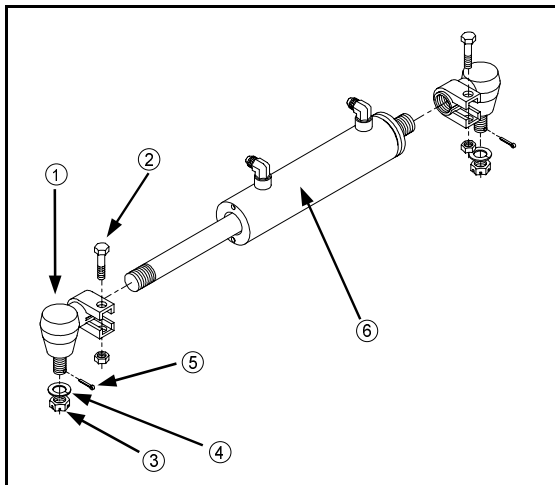

FIG 8.67
1. Remove cotter pin (fig. 8.67, item 5), castle nut (fig. 8.67, item 3), and lock washer (fig. 8.67, item 4).
2. Loosen lock collar bolt and nut (fig. 8.67, item 2).
3. Lightly tap swivel assembly (fig. 8.67, item 1) out of steering arm.
5. Screw swivel assembly in or out on steering cylinder (fig 8.67, item 6) until the treaded part lines up with steering arm.